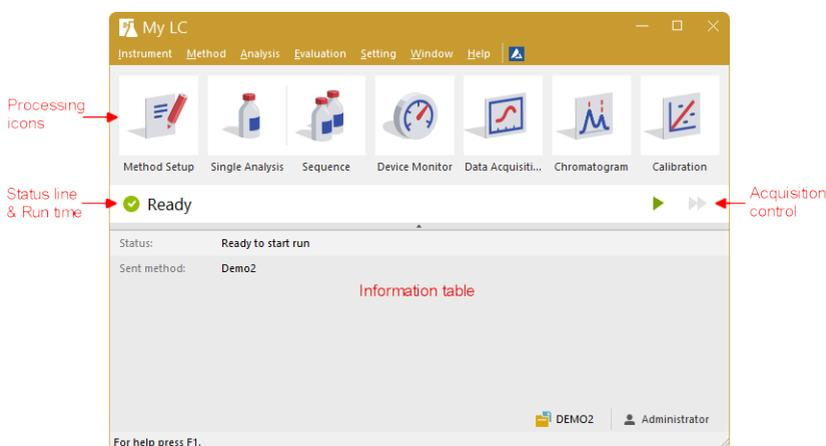

Fig. 11: Instrument window
- The *Instrument* window will open; **Fig. 11** on pg. 19. shows the most important icons in the *Instrument* window. During the tour, we will review all windows opened by these icons.
- For the demonstration purposes, you may set the values in the fields as shown in **Fig. 12** on pg. 20. as typical analysis settings. Once this is performed, your instrument window will be the same as shown in **Fig. 11** on pg. 19.
- After the parameter setup, you can run the analysis by clicking the **Run** button (7). The **Single Analysis** dialog will close now. If you open it again, you will see three additional buttons (**Stop**, **Abort**, **Snapshot**) that will allow you to stop or abort the analysis or take snapshots (see the chapter "**Data Acquisition window**" on pg. 21.).
- In the **Instrument** window look at the **Status line** (see **Fig. 11** on pg. 19.). The acquisition is now signaled by the **RUNNING** state and the actual run time shown there.
- To see the data acquisition in process and control it if necessary, click the **Data Acquisition** (8) icon (see **Fig. 11** on pg. 19.) to enter the **Data Acquisition** window.
- Depending on your station's configuration, one or more signals may be displayed. The number of detectors (signals) and their names can be seen in the upper right corner of the graph (9).